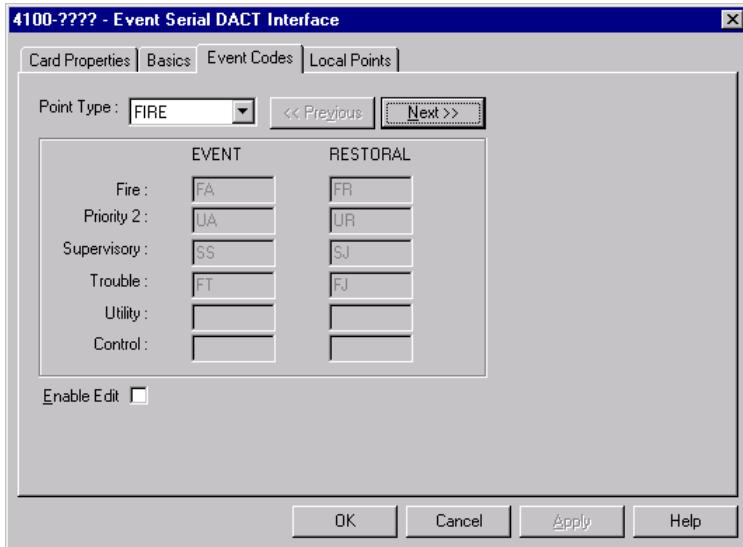

Figure 6-9. Event Codes Tab
The Event Codes tab, shown in Figure 6-9, allows you to edit the event codes associated with each of the 4100U point types. Should an event (alarm, trouble, supervisory) occur to a point associated with one of the point types, the DACT sends the specified event code to the central station.
2. Click on the Enable Edit button at the bottom of the screen (refer to Figure 6-9).